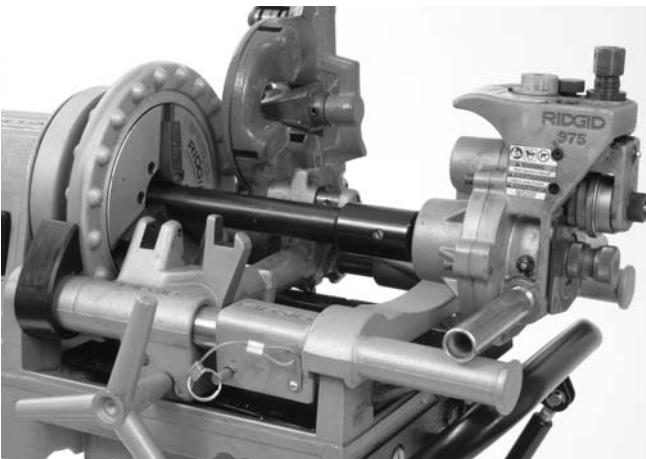

Figure 6 – 975 Combo Roll Groover Properly Mounted On 300 Compact Threading Machine
- Position the foot switch so that the operator can control the power drive/threading machine, the roll groover and the pipe to be grooved. As shown in *Figure 6*, the position should allow the operator to: